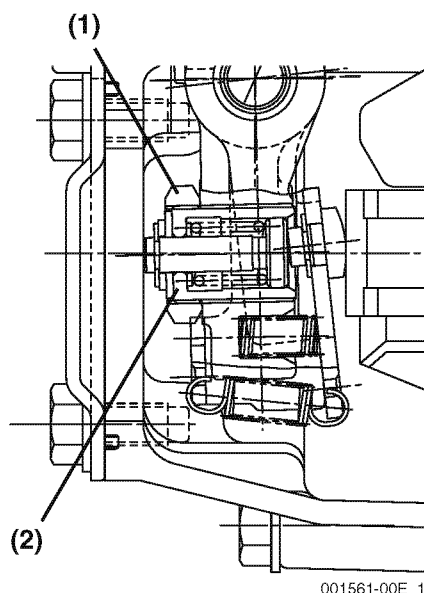

Figure 6-5
7. Loosen the jam nut (**Figure 6-5, (1)**) at the volume adjustment screw (**Figure 6-5, (2)**).
9. Tighten the jam nut (Figure 6-5, (1)).